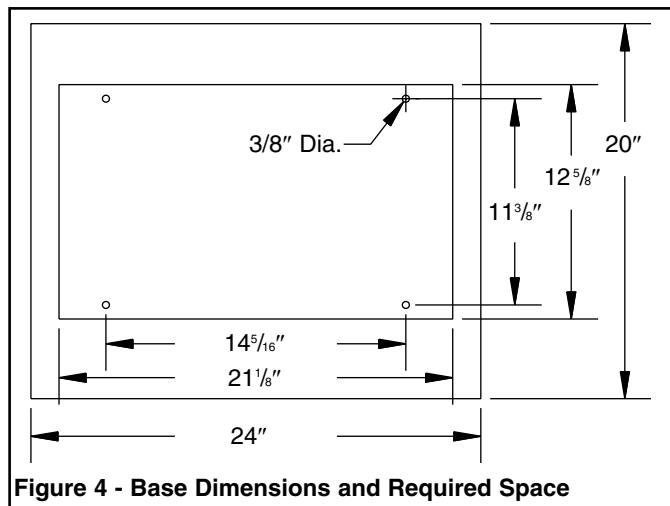

Figure 4 - Base Dimensions and Required Space
Refer to Figure 4.
- Figure 4 shows the base dimensions, mounting holes and required space to allow for table assembly in horizontal position.